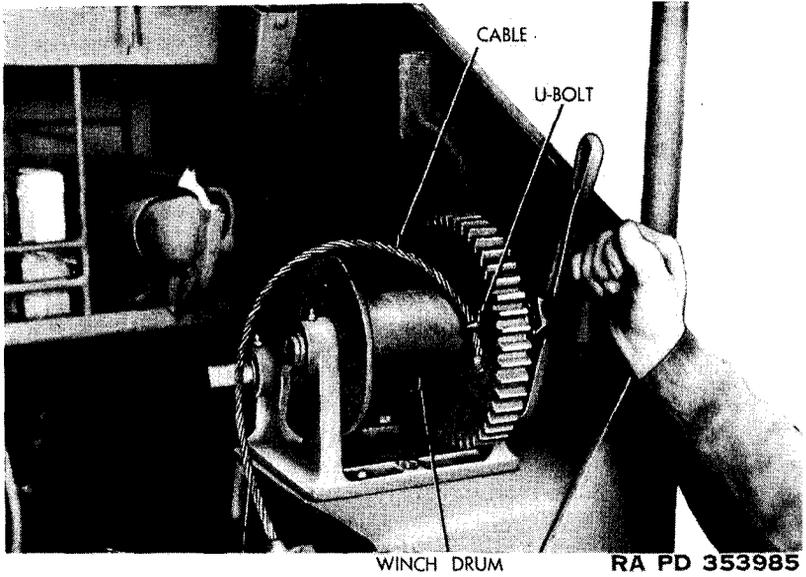

Figure 39. Disconnecting cable from hoist drum (M41).
a. REMOVAL. Unwind the cable from hoist drum and disconnect by loosening cable V-bolt (fig. 39). Pull the cable from sheaves, and disconnect from spade by removing three cable clamps. Attach hoist to foot of spade to prevent injury to personnel removing spade. Remove lock, bolt, nut, and lock washer from right spade foot (fig. 40).